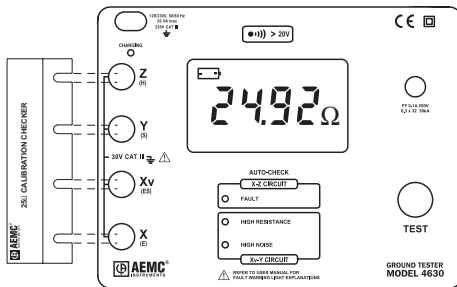

Figure 21
- Insert the calibration checker as shown in Figure 21.
If a check performed on the Model 4630 or 4620 displays a reading between 24.1Ω and 25.9Ω (as in Figure 21), the instrument is in good working condition. The readings are for an ambient temperature between 68° and 79°F (25°C ±3°C).